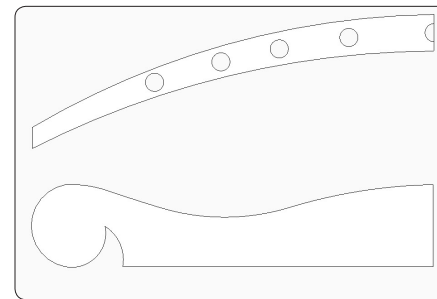

Figure 23. The front and top of the crest rail, traced from an imported image. Trace overs of the front and top views of the top rail
Step 1 Use the Line and Arc Tools to trace over the front and top views, as shown in Figure 23. Because the rail is symmetrical, you need to trace only half of each view. Be sure to include hole spacing for spindles or socket holes.